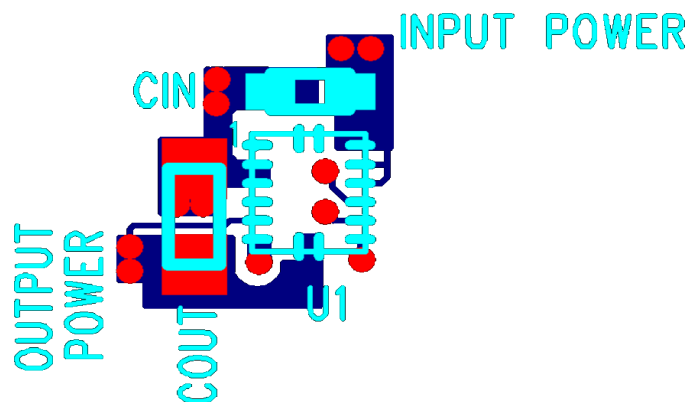

Figure 12. Top PCB Layer Critical Components and Copper for Minimum Footprint
Figure 12 shows critical components and layer 1 traces of a recommended minimum footprint EP5357LUI/EP5357HUI layout with ENABLE tied to  $V_{IN}$ . Alternate ENABLE configurations, and other small signal pins need to be connected and routed according to specific customer application. Please see the Gerber files on the Intel Enpirion website [www.Intel.com/enpirion](http://www.Intel.com/enpirion) for exact dimensions and other layers. Please refer to Figure 12 while reading the layout recommendations in this section.
**Recommendation 2:** Input and output grounds are separated until they connect at the PGND pins. The separation shown on Figure 12 between the input and output GND circuits helps minimize noise coupling between the converter input and output switching loops.
**Recommendation 4:** Multiple small vias should be used to connect the ground traces under the device to the system ground plane on another layer for heat dissipation. The drill diameter of the vias should be 0.33mm, and the vias must have at least 1 oz. copper plating on the inside wall, making the finished hole size around 0.20-0.26mm. Do not use thermal reliefs or spokes to connect the vias to the ground plane. It is preferred to put these vias under the capacitors along the edge of the GND copper closest to the +V copper. Please see Figure 12. These vias connect the input/output filter capacitors to the GND plane and help reduce parasitic inductances in the input and output current loops. If the vias cannot be placed under  $C_{IN}$  and  $C_{OUT}$ , then put them just outside the capacitors along the GND. Do not use thermal reliefs or spokes to connect these vias to the ground plane.
**Recommendation 5:** AVIN is the power supply for the internal small-signal control circuits. It should be connected to the input voltage at a quiet point. In Figure 12 this connection is made at the input capacitor close to the  $V_{IN}$  connection.